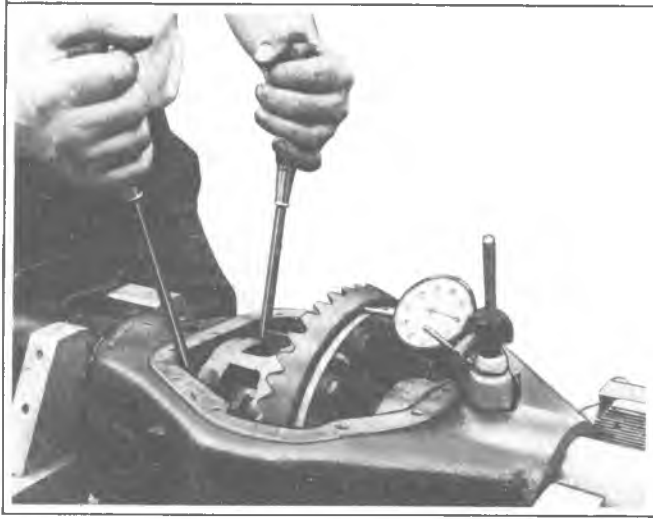

Fig. 8F--Screwdrivers Against Case
7. Reposition the screwdrivers to the opposite side of the differential case as shown in figure 8F.